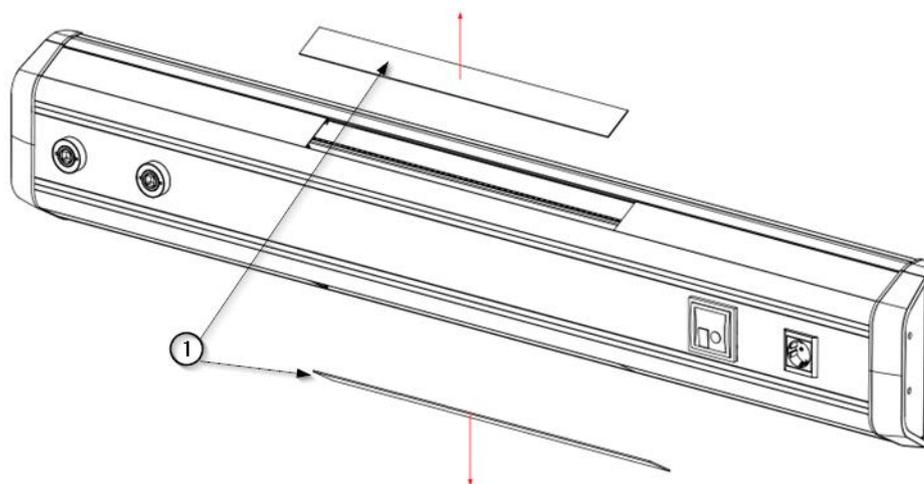

Fig.1 Removal of upper and lower diffusers
- Remove the light diffusers ① as shown in Fig. 1. Use a flat-bladed screwdriver with care not to scratch the paint on the side covers.